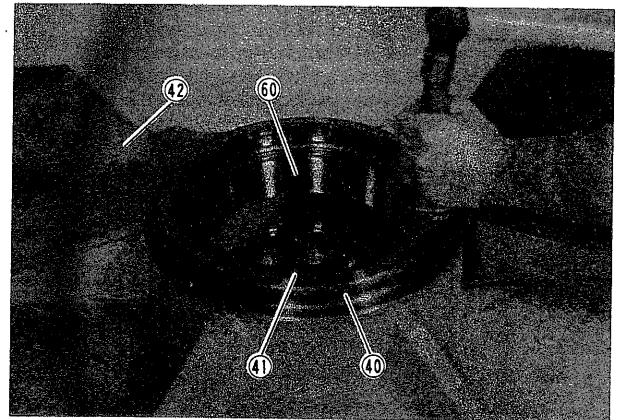

Fig. 88
- 2) Press outer races of bearings (60) into disc (42). Then install oil seal (41), seal ring (40) in disc (42). (Fig. 88)